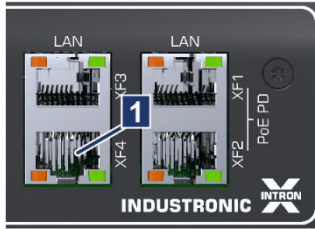

Fig. 7-1: Ethernet interface XF4
2. Connect the X-Controller to the PC/notebook via the Ethernet interface *XF4* (→ Fig. 7-1/1).